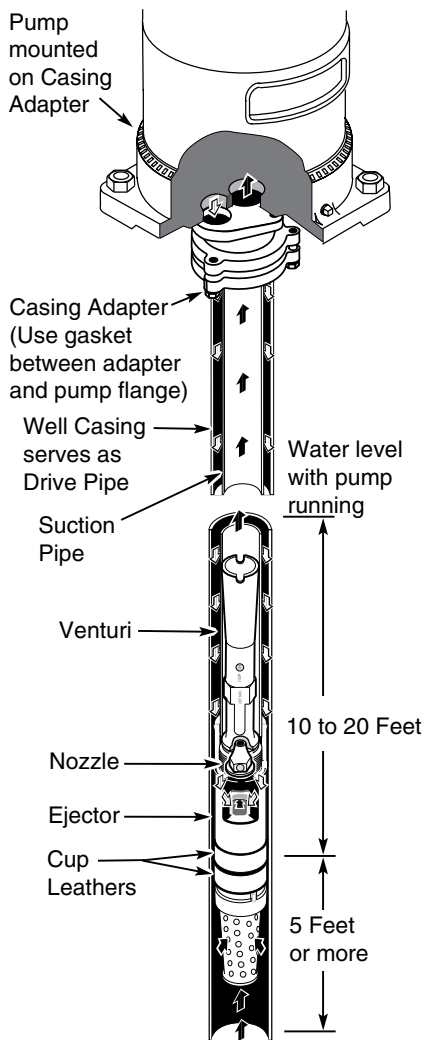

Figure 8
Single pipe installations require (see Figure 8):
IMPORTANT: as a guide, the ejector should be set at least 10 to 20 feet below the lowest water level with pump running, if possible, but always at least 5 feet above the bottom of the well (see Figure 8).
Step 4. To properly seat the cup seals, after the ejector is correctly positioned move the assembly up and down slightly. Water pressure in the casing will then soak the cup seals (see Figure 8). They should seal within 2-3 hours after installation.